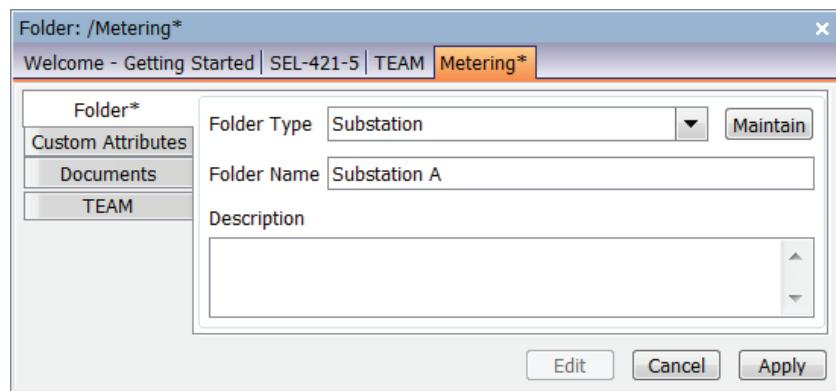

Figure 20 Rename Folder
Step 4. Double-click the newly added folder and, in the **Folder** tab, select **Edit**. For the purpose of this example, set **Folder Type** to **Substation** and **Folder Name** to **Substation A**. *Figure 20* shows the folder configuration screen with the parameters from this example. Select the **Save All** (disk) icon in the toolbar.